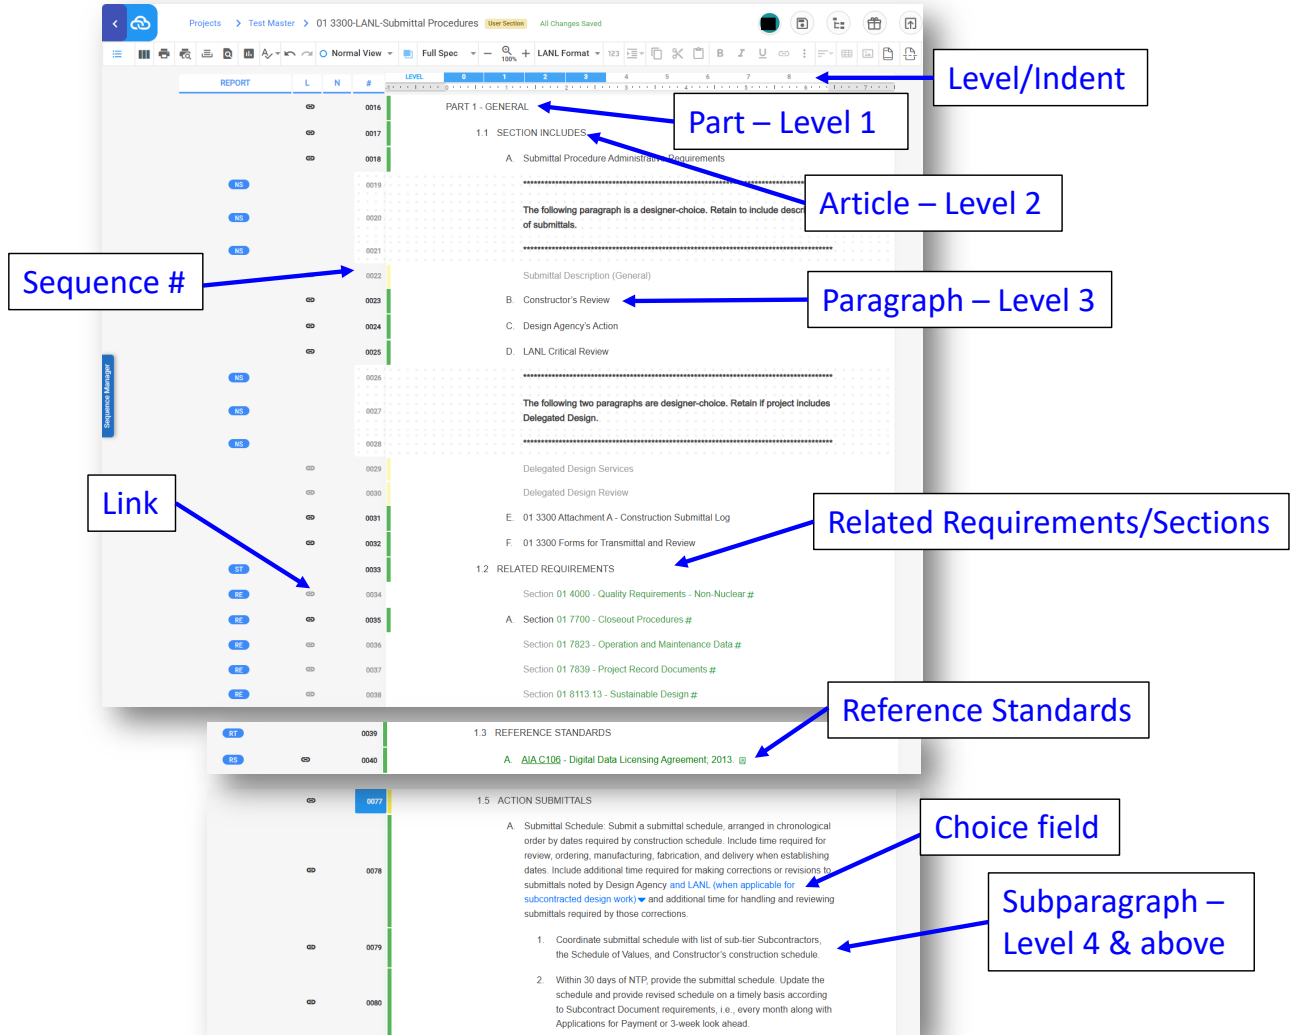

Figure 3: Basic Terminology in SpecLink Cloud
7.2 Figure 3 graphically shows the basic terminology used in SpecLink Cloud, which is essential to understand, to effectively use the software. A Section includes Parts; Parts include Articles; Articles are made up of paragraphs and subparagraphs.